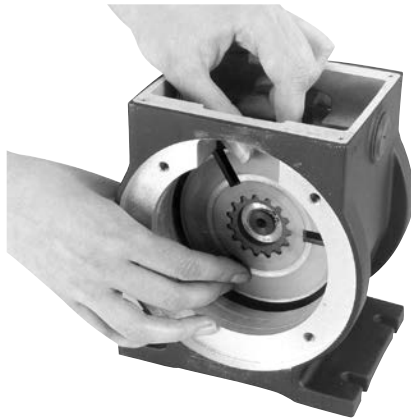

Figure 4
7. Assemble the second armature in the opposite direction of the first. (Figure 4)